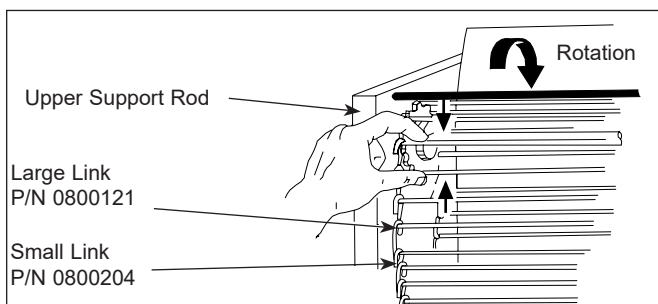

Figure 14. Removing Conveyor Belt Chains
After a time, the Conveyor Chain links will wear and the Conveyor Belt chain will stretch, eventually skipping on the sprockets. This is easily remedied by removing one or more conveyor links from each side of the belt. There are two 1/2" small links on each side of the conveyor belt. The others are large, 3/4" long (Figure 14).
2. Disconnect the Conveyor Belt Chain by squeezing any two links together and unhooking both ends of one link (Figure 14).
2. Place the replacement Conveyor Belt Chain on the top sprockets with hook ends down. Check for correct positioning (Figure 14).
NOTE: The ends of the hooks must point down. (Figure 14).